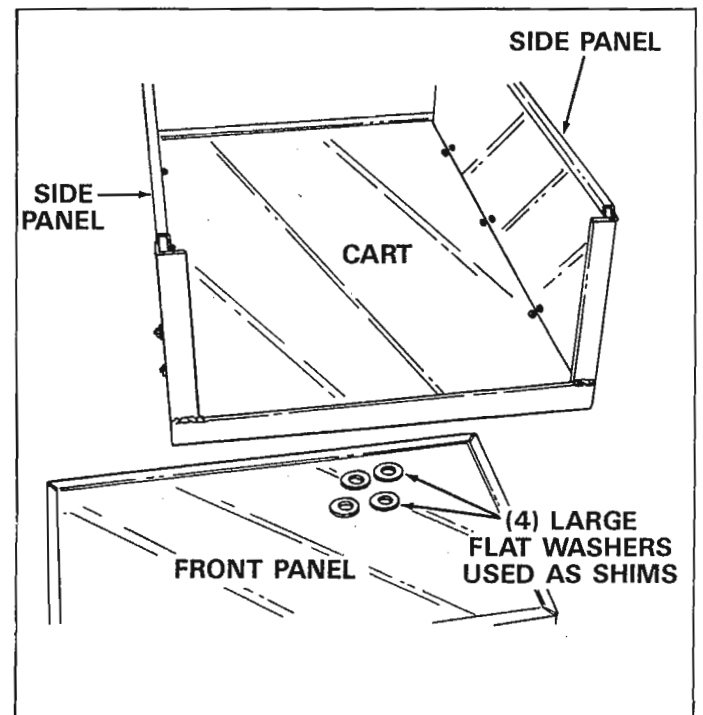

FIGURE 8
- Lay cart down on floor, so that the sides are up in a normal position. Remove the front panel, by sliding it up, and remove the four large washers you used for shims. See figure 8.